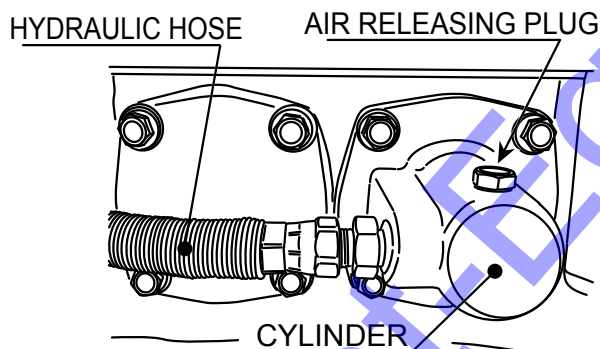

Figure 30. Removing Hydraulic Hose
3. Remove the hydraulic hose connected to the cylinder on the vibrator side (Figure 30).
7. Remove the air releasing plug of vibrator cylinder. Oil will then come out from the air releasing plug. After air bubbles stop coming out, reattach the plug. Tighten securely (Figure 30).